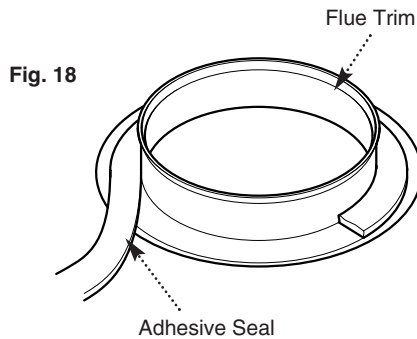

Fig. 18
2. Remove the protective backing from the adhesive seal. Apply the seal to the rear of the trim flange (Fig. 18).